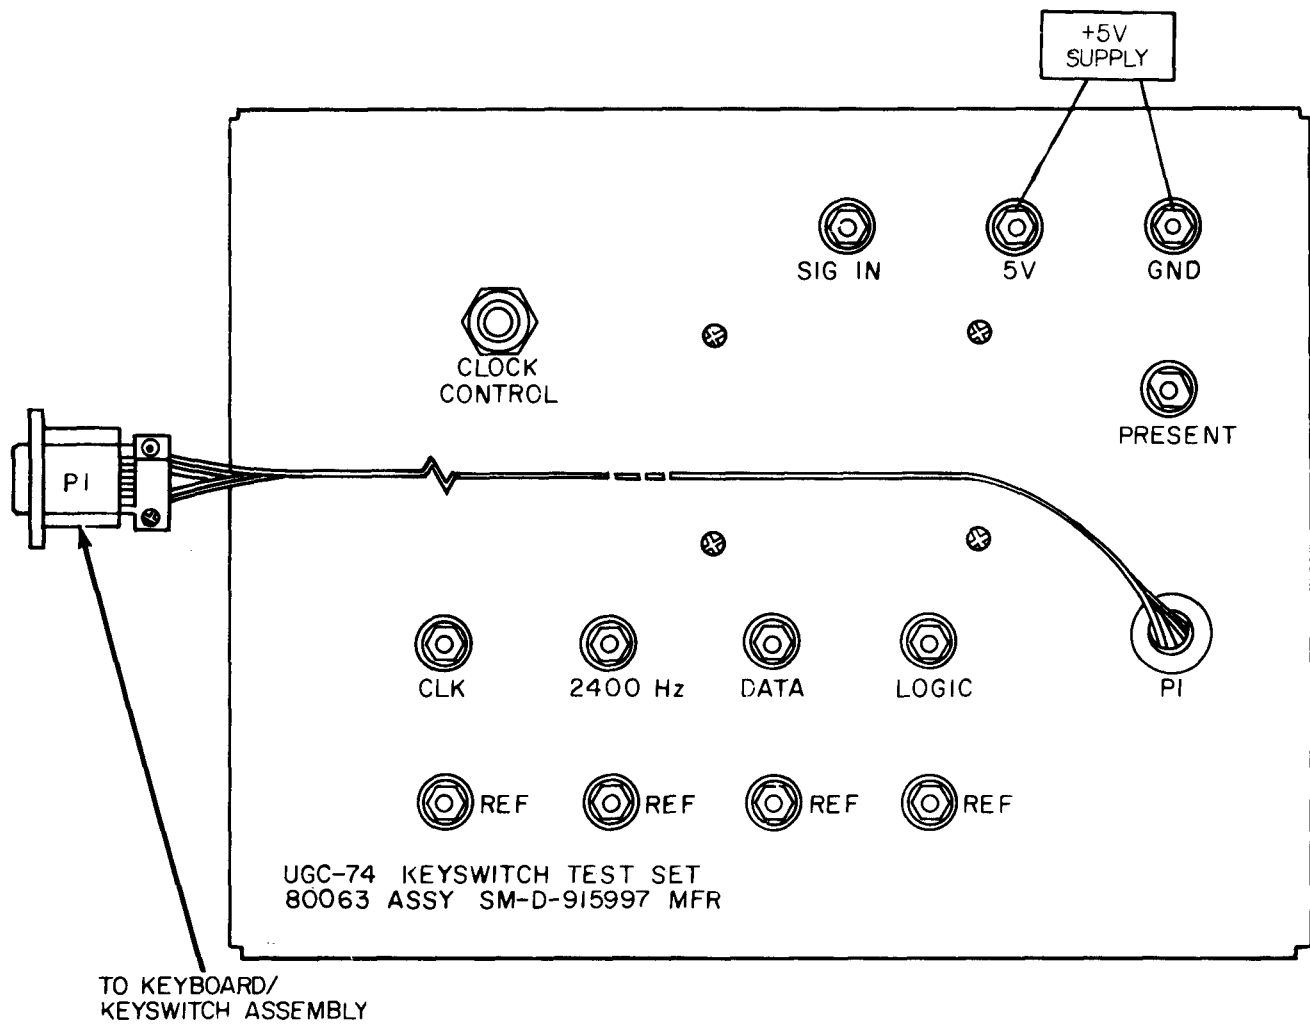

Figure 6-25. KEYBOARD KEYSWITCH ASSEMBLY TEST SETUP.
c. Test Setup Procedures for Keyboard Keyswitch Assembly (fig. 6-25).